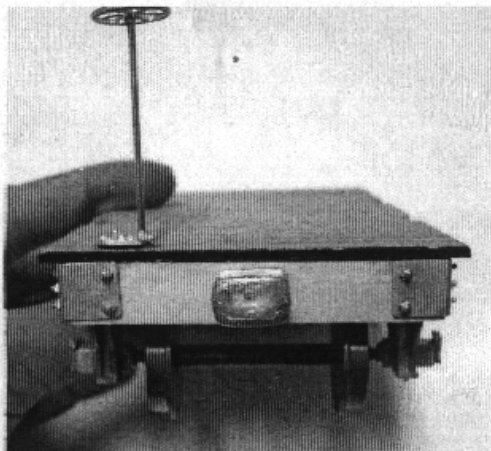

Figure 10
- 10) Finally, you will need to find the center of the end beams and drill a 1/8" hole for the couplers and glue them in place with ca cement. (fig 10) You may also need to drill out the pin holes in the couplers with a 1/16" bit.